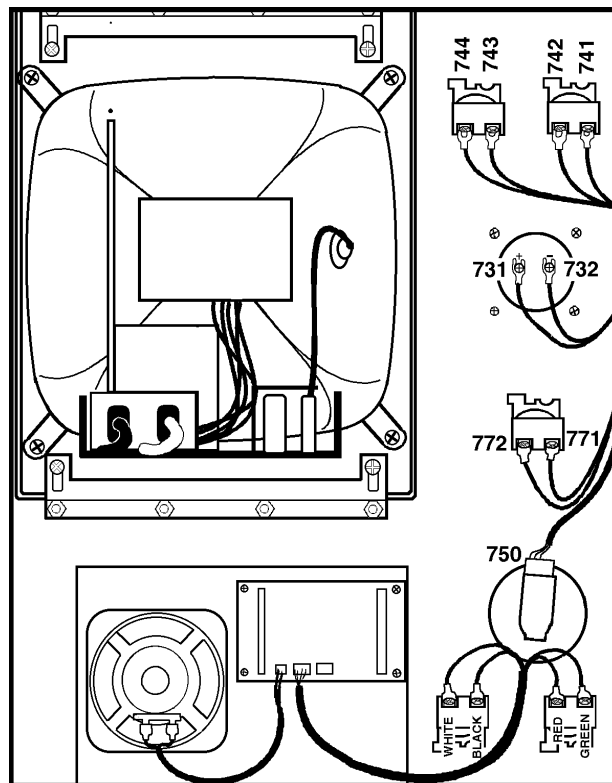

Fig. 5-1 Interior of control panel (rear).
7. Replace by sliding the new assembly onto the eight bolts (four each on top and bottom). Starting with the bottom right, place the washers and hex nuts on the bolts to hold in place. Refer to Fig. 5-1 for the order of replacement.
3. Disconnect all leads to the switch's connectors. Ensure all leads are properly marked for reconnecting later. Refer to Fig. 5-1 for proper locations.
6. Reconnect all leads to the correct switch. Refer to Fig. 5-1 for proper location(s).
3. Disconnect the two leads at the back of the spindle load meter assembly. Ensure the two leads are properly marked for reconnecting later. Refer to Fig. 5-1 for locations.